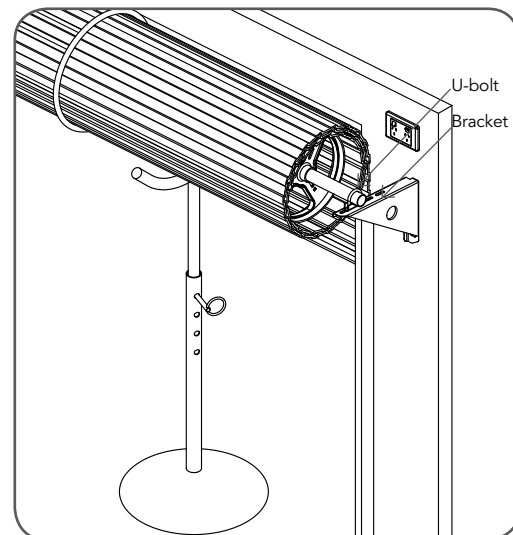

fig 08
- f. Remove the door bracket allowing the door to rest on the support (**Fig. 08**).